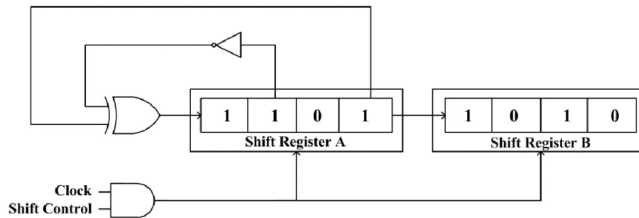

Fig. 5.12: circuit Diagram
12. In the circuit shifter in Fig. 5.12, the initial binary content of the shift register A 1101 and that of shift register B